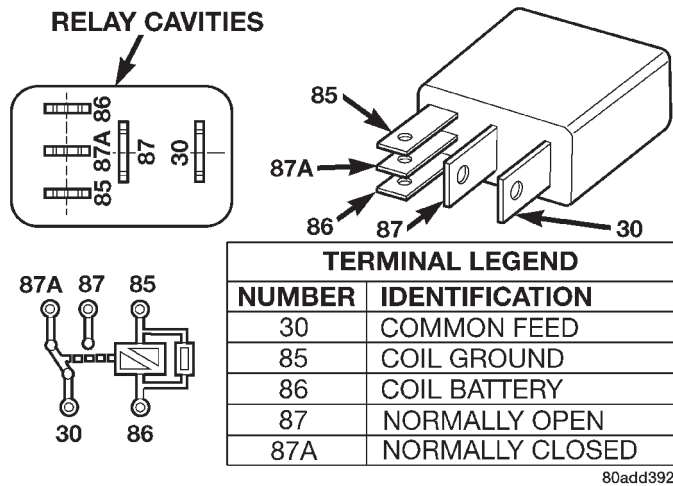

Fig. 14 Type-2 Relay
(15) If equipped with **type-2 relay** (Fig. 14), attach test leads from LCS adapter into PDC relay cavities number 30 and 87. For location of these cavities, refer to numbers stamped to bottom of relay (Fig. 14).